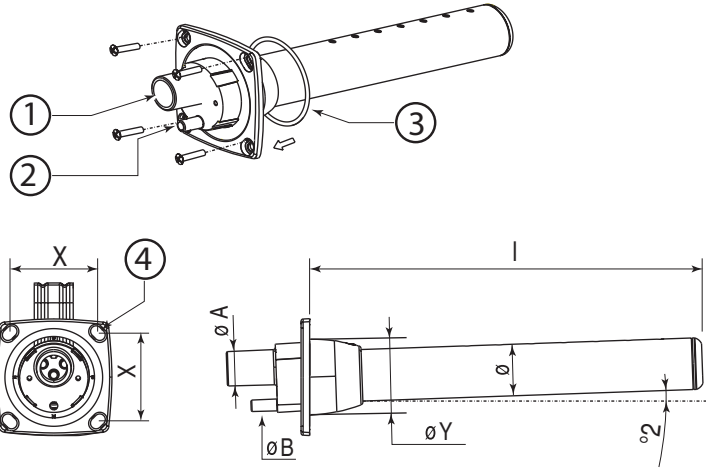

Fig. 3.a.j
**Installing the CAREL DP0\*\*D22R0 linear distributors (see Fig. 3.a.j):**